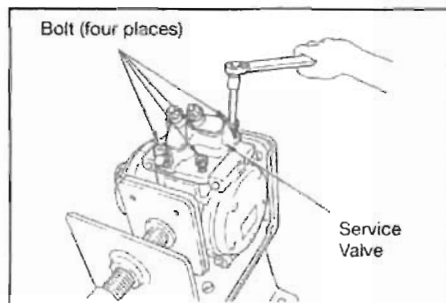

Fig. 3
7. Attach service valve(s) or service valve cap(s) to compressor using original bolts and torque bolts to 24.5 N·m (250 kgf·cm, 18.1 lbf·ft). (See Fig. 3)